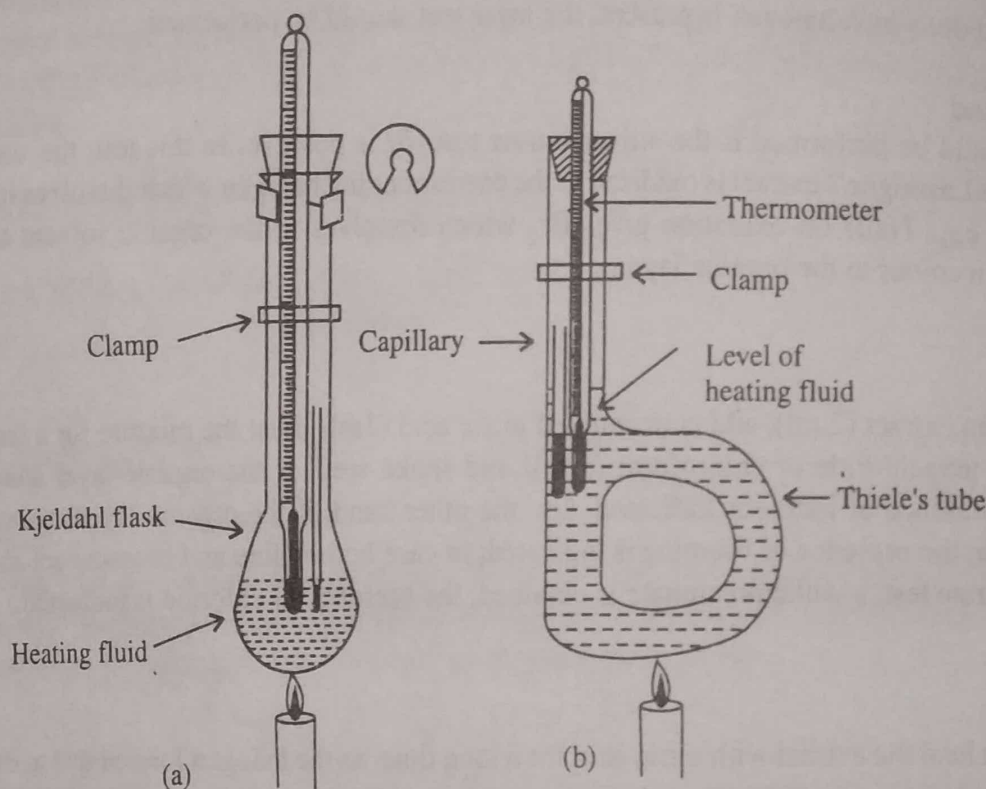

Fig. 5.5 (a) Kjeldahl flask (b) Thiele's tube
Powder the organic compound (100 mg) with the help of a spatula on a clean, dry watch glass. Seal one end of a capillary tube (~3" long) and fill it (3–5 mm) with the finely powdered sample to form a compact column. Attach the capillary to the thermometer and place it in the kjeldahl flask (100 ml capacity) containing the bath liquid (~50 ml) (concentrated sulphuric acid or paraffin wax) as shown in the diagram (Fig. 5.5(a)). Heat the kjeldahl flask gently at a uniform rate ($1-2^\circ$ rise in temperature per minute). Note the temperature at which the solid melts.
4. A Thiele's tube may be used in place of a Kjeldahl flask (Fig. 5.5(b)).